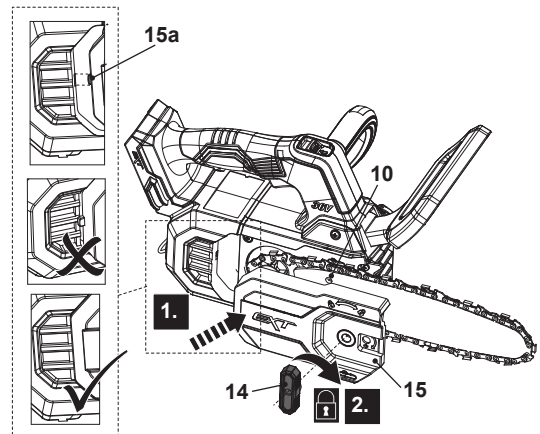

Fig. 6
9. Align and place the chain saw cover (15) over the mounting bolt (10). Refit the chain saw cover (15) and slightly tighten the locking wheel (14) clockwise (Fig. 6, steps 1, 2). Ensure that the spigot (15a) engages correctly in the slot. Do not tighten the locking wheel (14) completely as saw chain tensioning is required first.